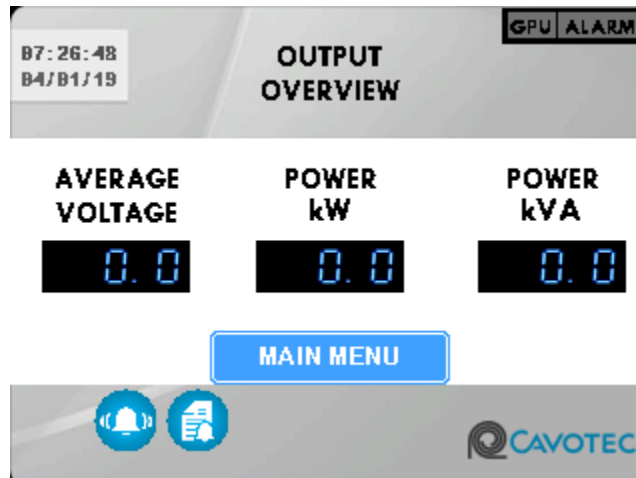

Figure 2-1. Output Overview Screen
2. On the OUTPUT OVERVIEW screen shown in Figure 2-1, press MAIN MENU.